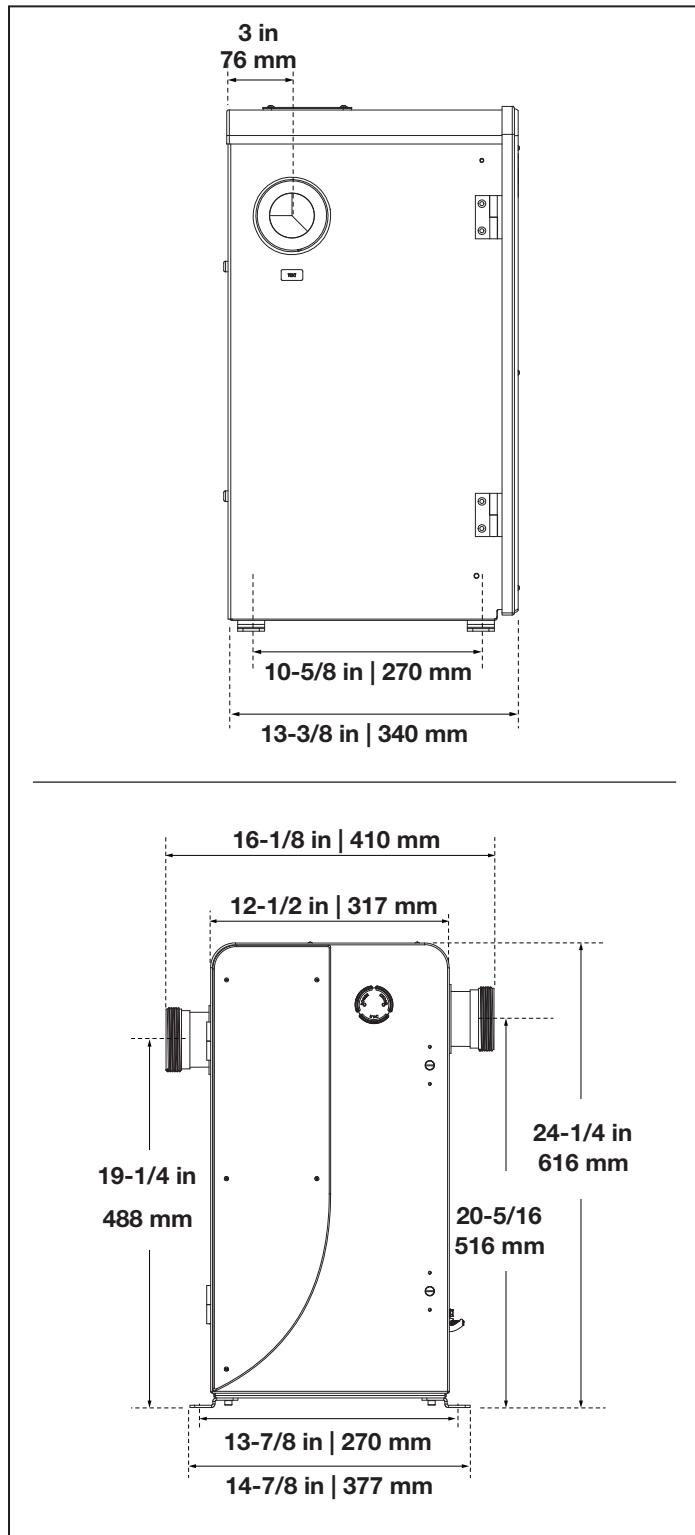
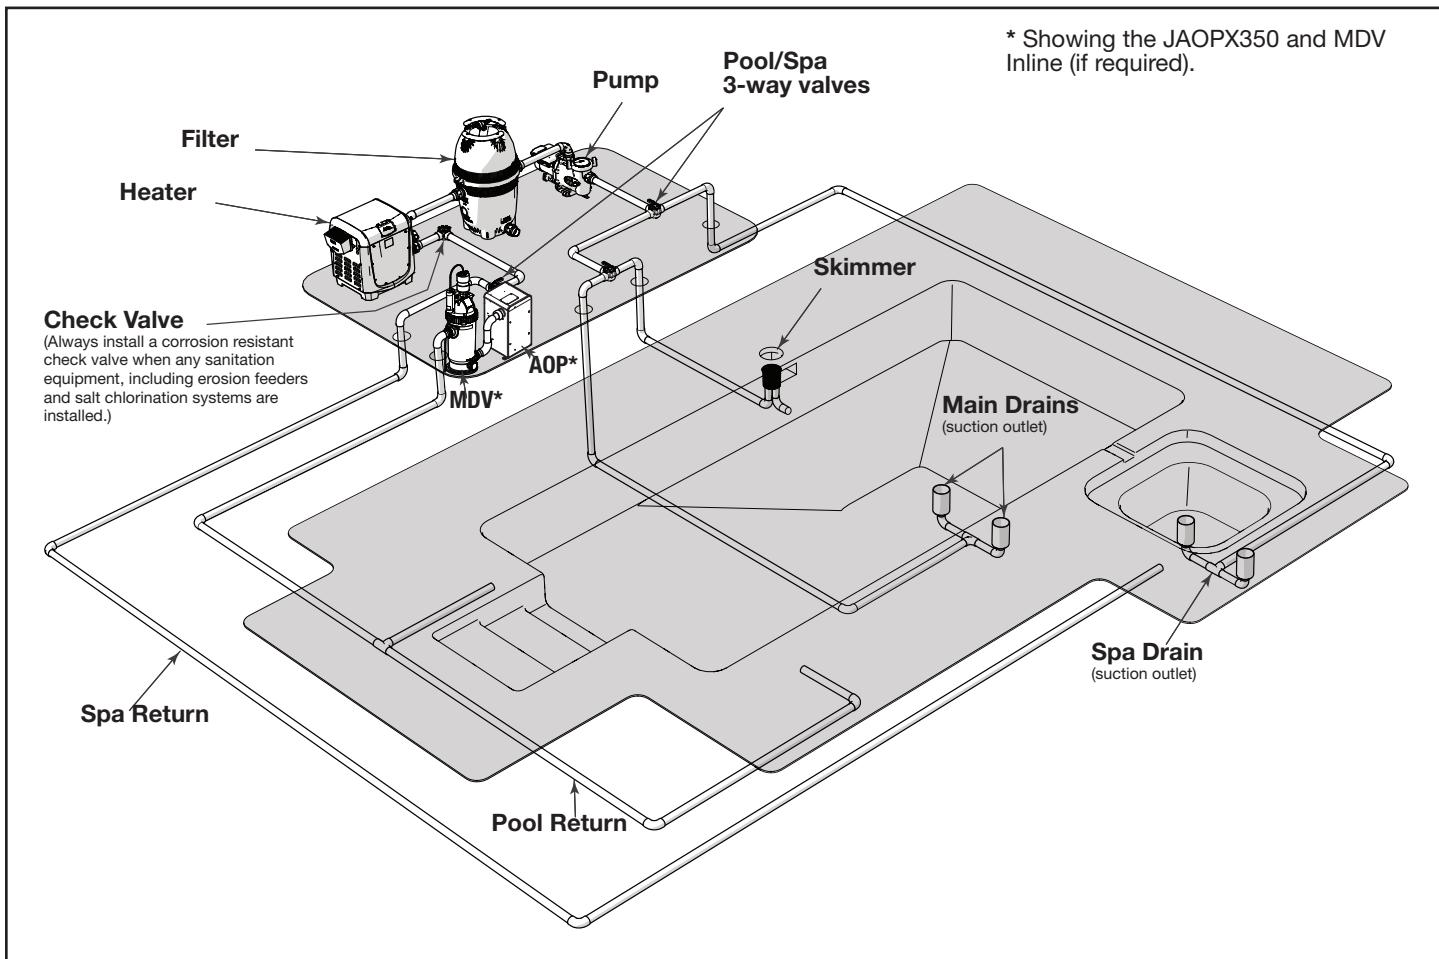

Figure 2. JAOPX200 and JAOPX350 Installation Related Dimensions
Figure 4. Typical Jandy AOP Location in Pool Plumbing Loop
- Use the union fittings provided to connect the Jandy AOP inlet and outlet to pool plumbing as shown in Figure 4.
- For installation with additional sanitizers and pool cleaners, see section 7.1 Appendix A: *Jandy X Series AOP Installation - System Plumbing*. Figure 2 shows related dimensions. Figure 4 shows a typical plumbing diagram.